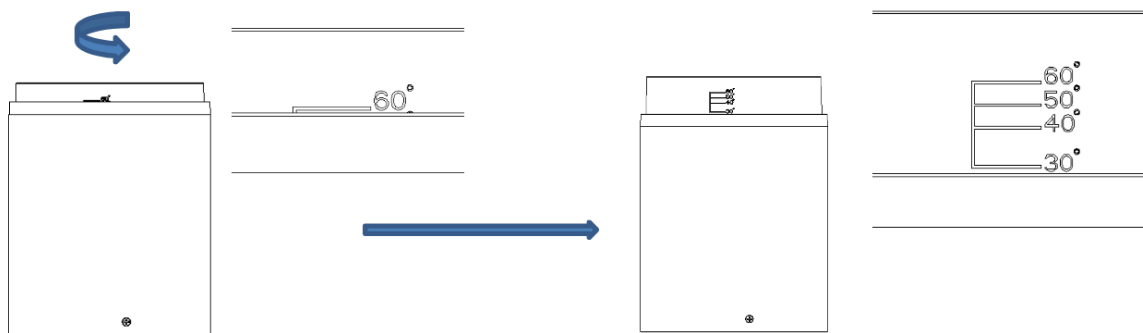

Fig. 11
1. Turn the inner cylinder counter-clockwise to narrow the beam angle. (Fig. 11)
2. Similarly, turn the inner cylinder clockwise to widen the beam angle. (Fig. 11)